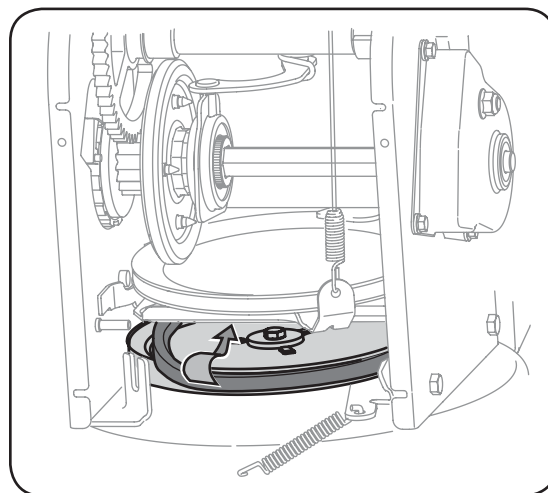

Figure 6-8
5. Remove the belt from around the auger pulley, and slip the belt between the support bracket and the auger pulley. Reassemble auger belt by following instructions in reverse order. See Figure 6-8.